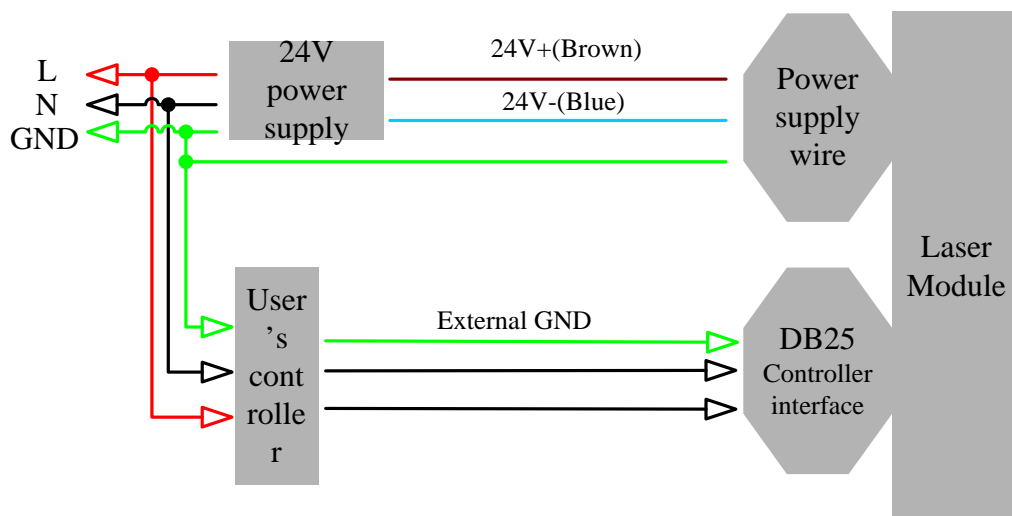

Figure 4. Schematic of recommended electrical connection
- 3) Make sure that the interface of the external controller matches the laser and the control cable is well connected to the laser's interface. The recommended electrical connection is shown in Fig. 4.